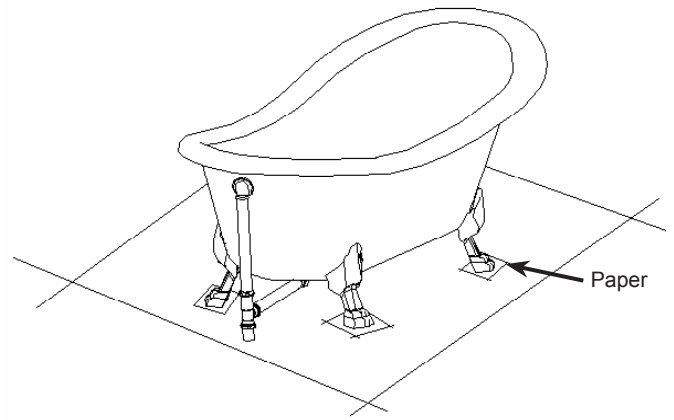

Figure 9. Bath Location for Slipper Bath
2. Place the bath into its permanent location. Each claw foot should be set on one of the pieces of paper, see Figure 9.